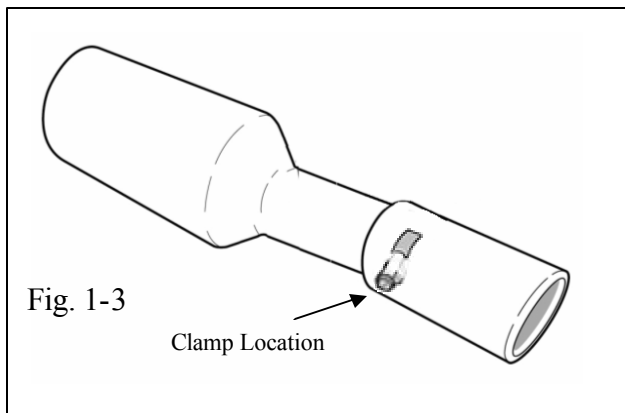

Fig. 1-3
- (1) Make sure that the bolt is located on the drivers' side of the exhaust tip, and drain hole on the bottom (Fig 1-3)
- (e) Tighten the clamp bolt making sure the bolt is in a vertical position. (Fig. 1-3)